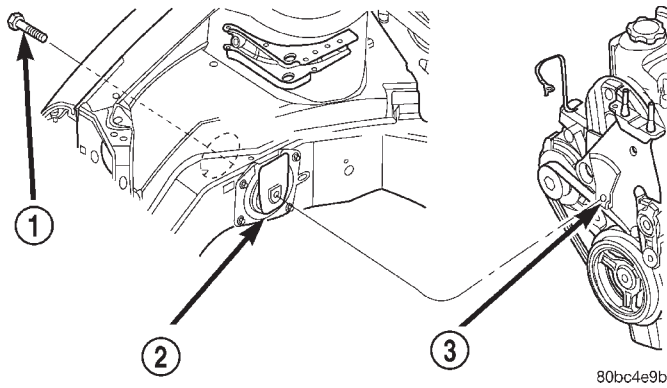

Fig. 21 Engine Mount to Bracket
(5) Remove right engine mount to bracket through bolt (Fig. 21).
(2) Install bolt attaching engine mount to bracket (Fig. 21). Tighten bolt to 118 N·m (87 ft. lbs.).